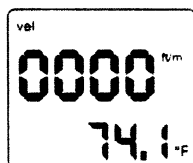

fig. 1
2. Unit is ready for use when LCD display shows "vel" in upper left corner and temperature in lower right corner. (fig. 1)